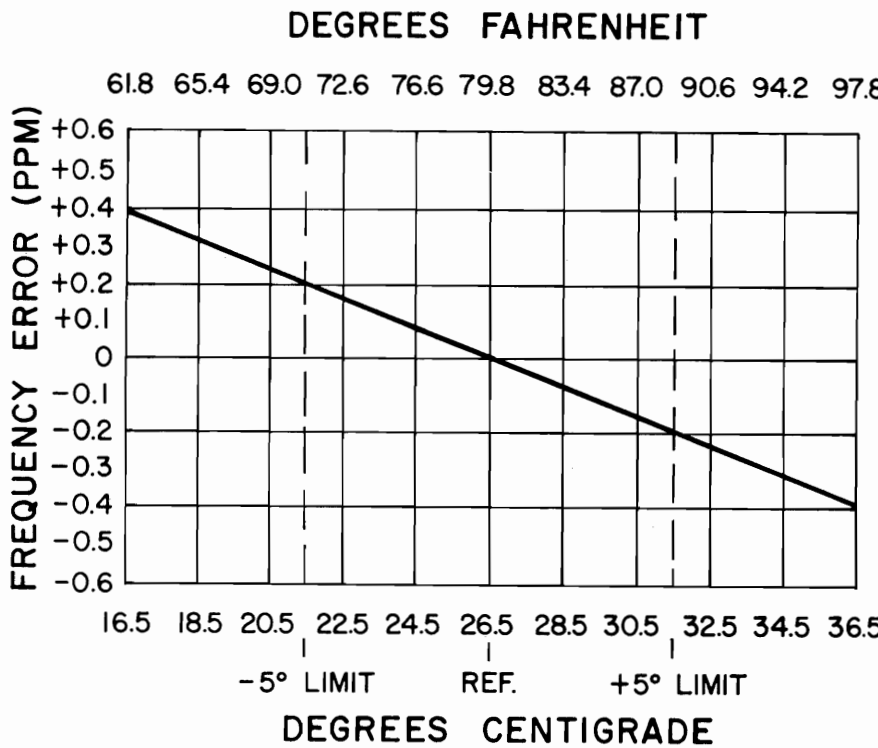

Figure 9 - Frequency Characteristics Vs. Temperature
- 2. Maintain the radio at 26.5°C (±10°C) and offset the oscillator, as a function of actual temperature, by the amount shown in Figure 9.
- B. To hold setting error to ±0.35 PPM (which is considered reasonable for 2 PPM ICOMs): Maintain unit at 26.5°C (±5°C) and offset the oscillator as a function of actual temperature, by the amount shown in Figure 9.